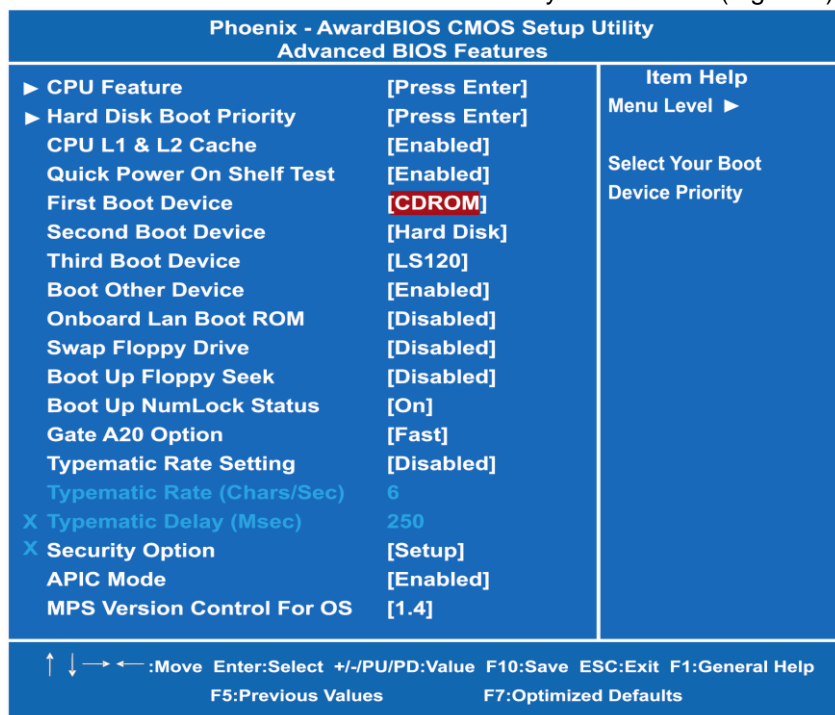

Figure 2
(2)-2 Set CDROM for First Boot Device under the Advanced BIOS Features menu to boot CD-ROM after system restarts (Figure 2).